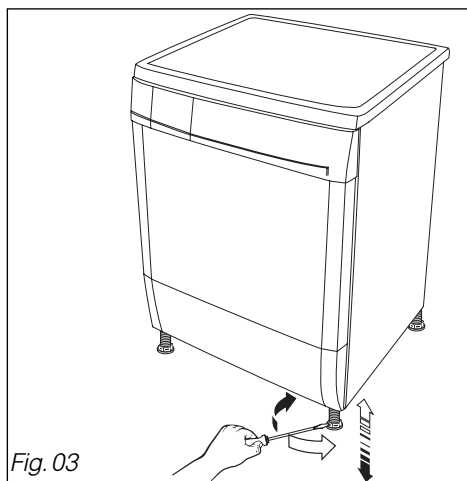

Fig. 03
Your dryer is fitted with 4 adjustable feet (Fig.03). To adjust the stability and levelness :
- Screw one or more of the feet in or out using a spanner or a screwdriver to adjust their height to suit the shape of the floor (Fig.03)